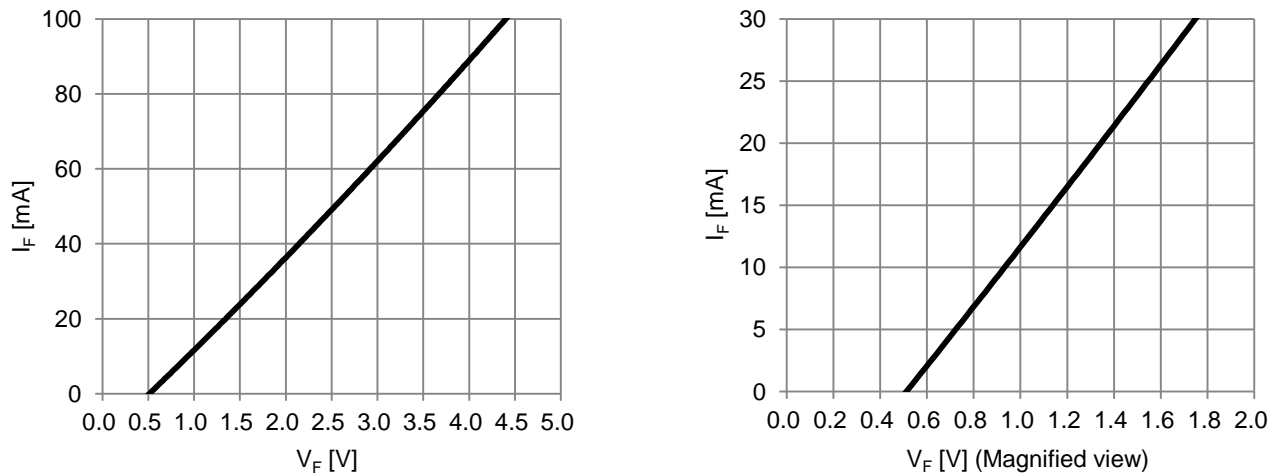

Figure 2. Built-in Bootstrap Diode  $V_F$ - $I_F$  Characteristic ( $T_C=25^{\circ}C$ )
- The characteristics of bootstrap diodes are shown in Figure 2.